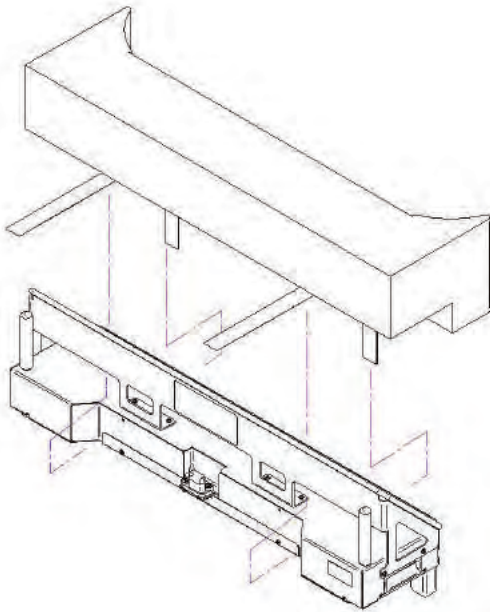

Figure 117: Strapping the mattress to the optional bed extender
1. Strap the appropriate mattress extender cushion onto the optional bed extender (Figure 117 on page 102).